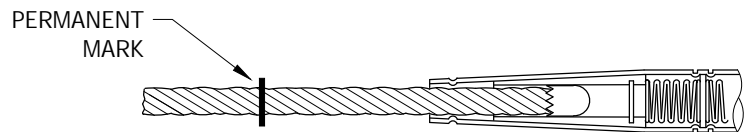

FIGURE 4
- H. THE FIGURES ABOVE ILLUSTRATE THE BASIC OPERATING PRINCIPLES OF THE AUTOMATIC SLEEVES. AS THE PREPARED CONDUCTOR IS INSERTED INTO THE SLEEVE (FIGURE 3), THE JAWS ARE FORCED TOWARD THE WIDER PORTION OF THE TAPERED SPLICE BODY, PERMITTING THE JAWS TO SEPARATE AND ACCEPT THE CONDUCTOR (FIGURE 4). THE INTERNAL SPRING KEEPS THE JAWS FROM OPENING ANY MORE THAN NECESSARY. WHEN THE CONDUCTOR HAS BEEN COMPLETELY INSERTED, TENSION IS APPLIED, FORCING THE JAWS IN THE DIRECTION OF THE NARROWING TAPER, WHICH IN TURN INCREASES THE COMPRESSIVE FORCES OF THE JAWS UPON THE CONDUCTOR. AS THE LINE TENSION INCREASES, SO DOES THE GRIPPING FORCE OF THE JAWS.